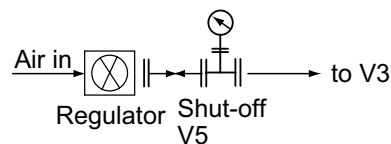

Figure 1 - Manual Test Assembly
## Procedure for Single Stage Usage Installation Qualification Test (Refer to Figures 1 and 2)
4. Attach the manual test assembly (Figure 1) to V3 and V5.
6. Allow the pressure to stabilize for three (3) minutes with the air supply turned on.
8. After three (3) minutes record the pressure.
10. Repeat steps 1-9 until the pressure decay recorded at the end of the three (3) minute test period is less than 5 mbar (0.07 psi), Proceed to the Capsule Qualification Test.
1. Remove the manual test assembly shown in Figure 1 from V3.
10. Attach the manual test assembly to V3 (Figure 1) and open V5 to pressurize the capsule(s) to 100 mbar +/- 7 mbar (1.45 psi +/- 0.1 psi) using the manual test assembly (Figure 1).
11. After five (5) minutes inspect the drain lines V1 and V4 to determine if the bulk of water or buffer solution flow has stopped. If bulk water or buffer solution flow has not stopped, allow the housing to continue to drain until the water or buffer solution flow is reduced to a trickle. When bulk water or buffer solution flow stops close V1 and V2. V4 should remain open during the capsule qualification test.
13. After three (3) minutes record the pressure.